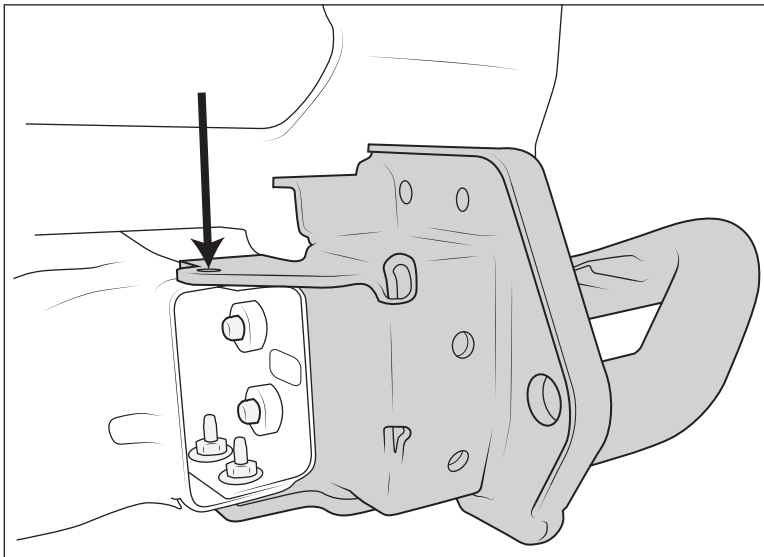

Figure 5
- H. In location of top inboard holes on bumper corners, drill through the frame rail. Deburr the hole and treat bare metal with rust preventative. Install M10x30mm hex head bolt with washer from the top, and a hex nut from the bottom (fig. 5). Torque to 40 lb-ft.